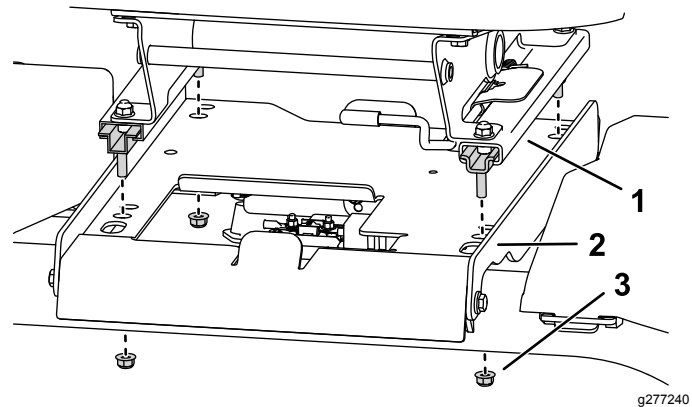

Figure 4
- Install the 4 studs on the seat rails into the seat pan and secure them using 4 flange nuts (Figure 4).
Note: If you need additional adjustment on the seat, remove the 4 bolts securing the seat to the rails and move the seat to the second set of mounting holes provided (Figure 4).